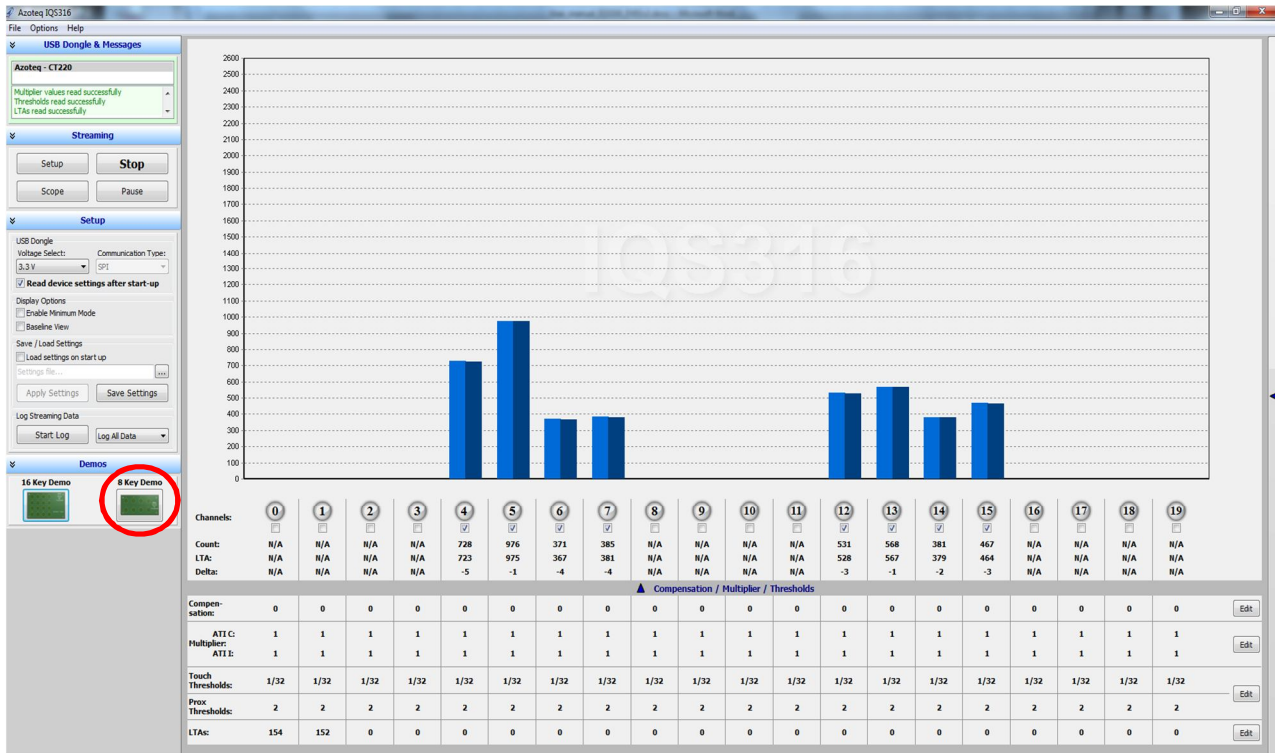

Figure 5.5 Start-up Screen for the IQS316 GUI
- To enter the 8-Key Demo mode, click on “8 Key Demo” in the lower left-hand corner of the IQS316 GUI start-up screen, as indicated in Figure 5.5.